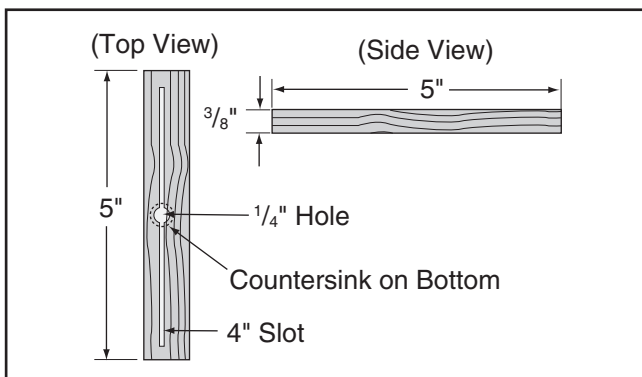

Figure 65. Miter bar pattern.
- Cut a miter bar that will fit in the table miter slot approximately 5" long, as shown in **Figure 65**.